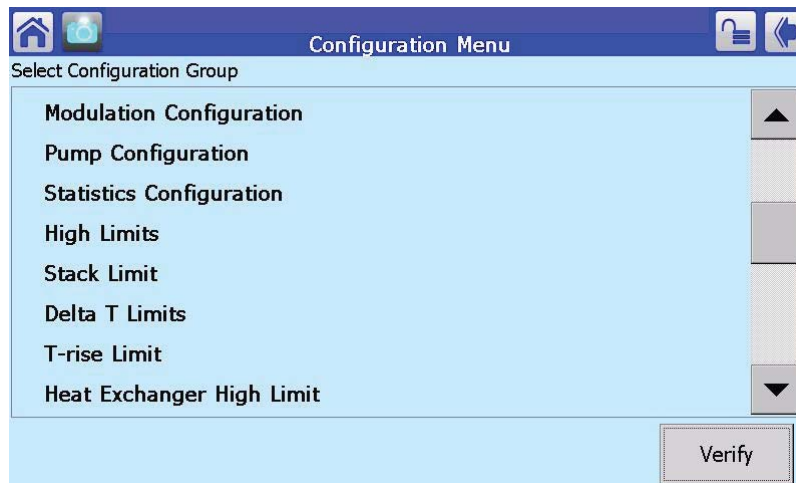

FIGURE 19 - VERIFICATION PROCEDURE
1. Arrow back to the Configuration Menu and press Verify down in the lower right hand corner. Figure 19.